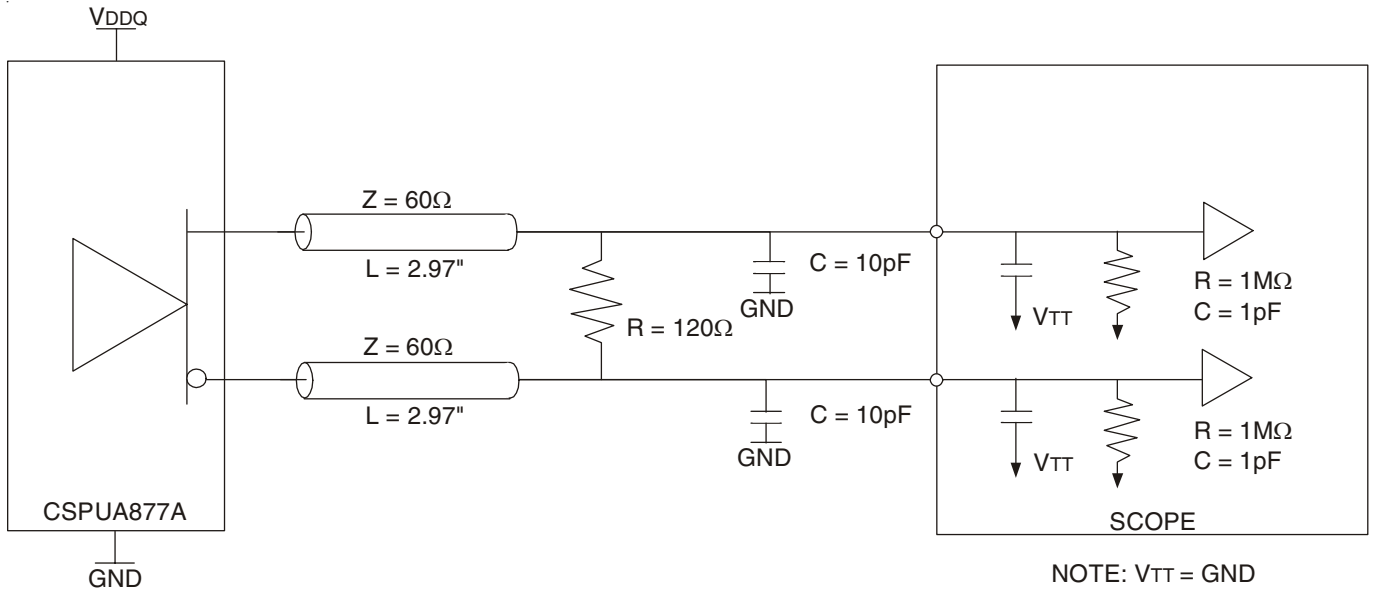

Figure 1: Output Load Test Circuit 1
- There are two different terminations that are used with the above AC tests. The output load shown in figure 1 is used to measure the input and output differential pair cross-voltage only. The output load shown in figure 2 is used to measure all other tests, including input and output slew rates. For consistency, use 50 Ω equal length cables with SMA connectors on the test board.
- In the frequency range of 271 - 410MHz, the min and max values for t_{JIT(PER)} and t_{(ϕ)DYN}, and the max value for t_{SK(O)}, must not exceed the corresponding min and max values of the 160 - 270MHz range. Also, the sum of the specified values for | t_{JIT(PER)} |, | t_{(ϕ)DYN} |, and t_{SK(O)} must meet the requirement for Σt (SU), and the sum of the specified values for | t_{(ϕ)DYN} | and t_{SK(O)} must meet the requirement for Σt (H).